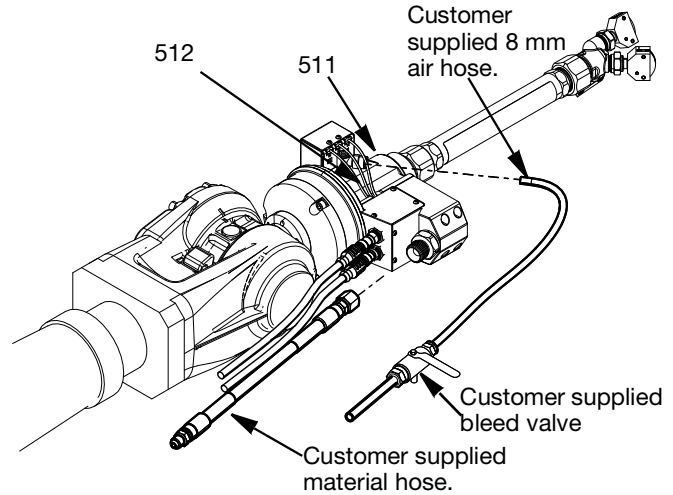

FIG. 7
Customer must install air bleed valve between air supply and SST Switch 3D Gun connection. See FIG. 7. The material supply hose connects to the SST Switch 3D gun using a customer supplied fitting. The inlet thread is 1/2 In. BSPP. See FIG. 7.
3. Relieve all air pressure in the air lines by shutting off the Customer supplied bleed valve. See FIG. 7.
4. If the nozzle tip or material hose is clogged or if pressure has not been fully relieved after following the steps above, very slowly loosen the customer supplied material hose from the 1/2 in. BSPP inlet fitting (604), (see FIG. 7).